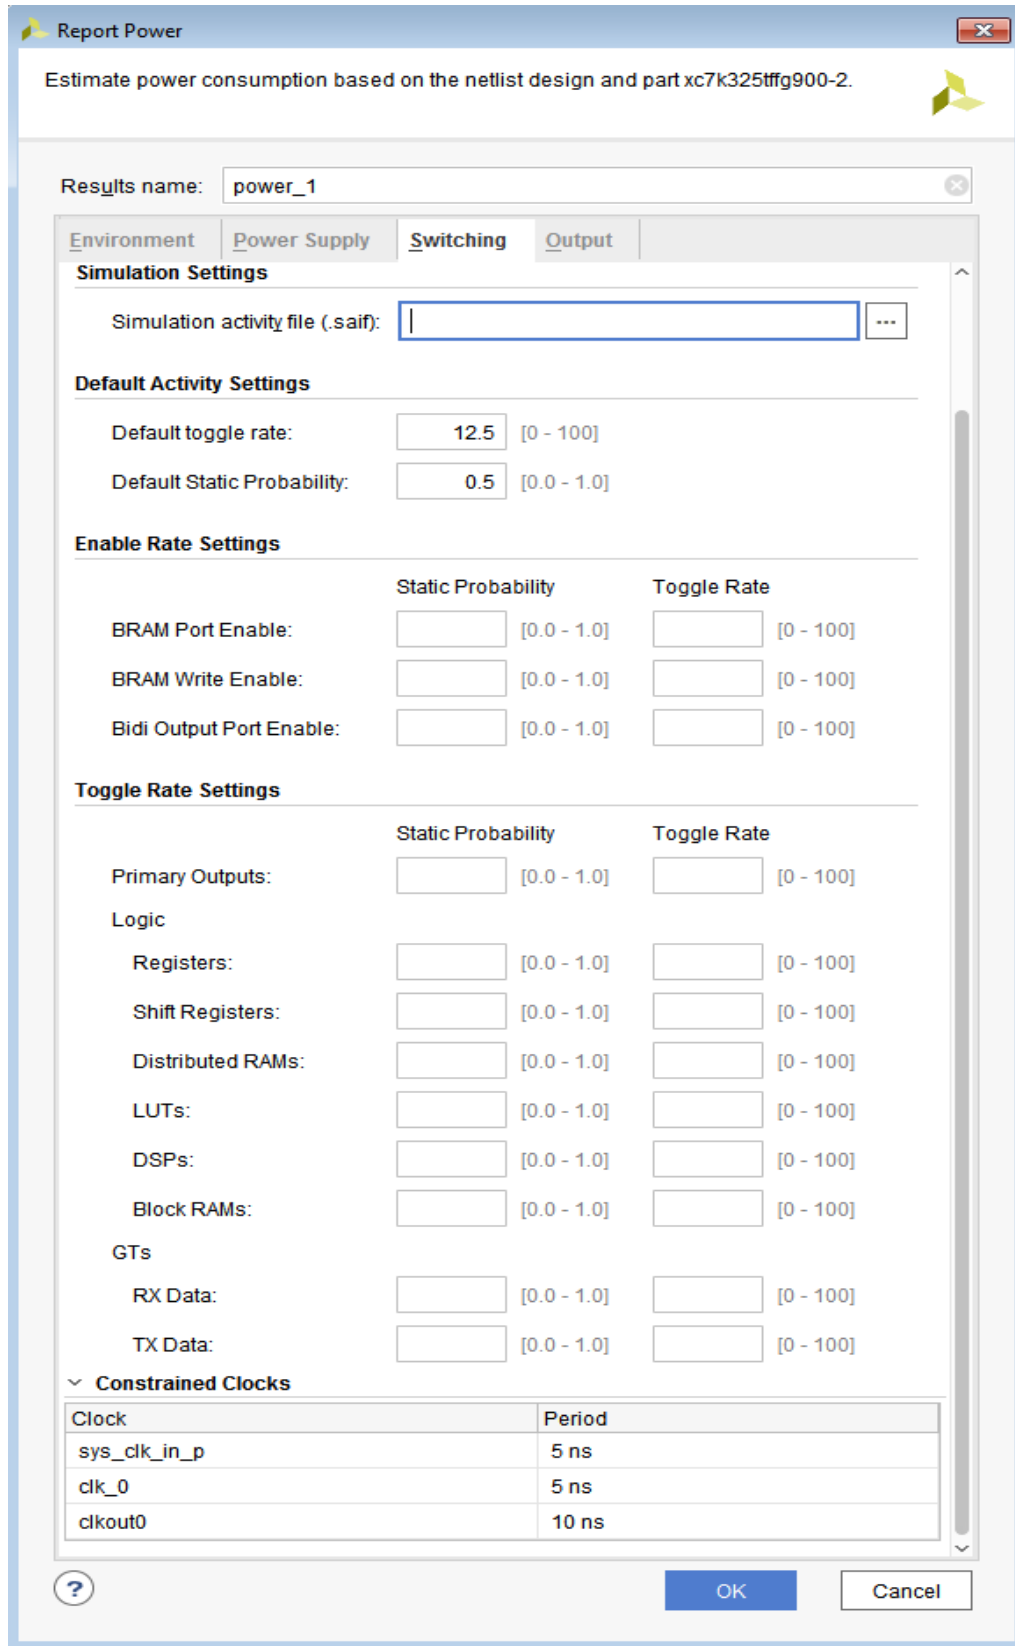

Figure 10: Report Power Dialog Box – Switching tab expanded to display Constrained Clocks
4. In the **Switching** tab, expand Constrained **Clocks** and examine the constrained clocks in the design (Figure 10).